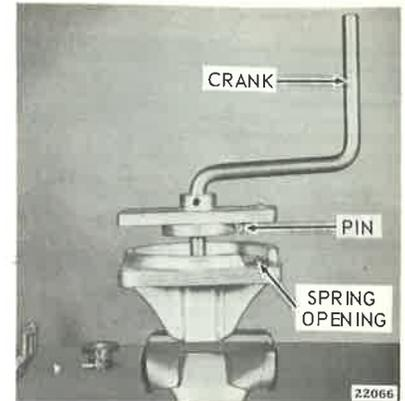

Figure 8-5. Rewind Tool Base and Crank
- a. Clamp base of Starter Spring Winder (Special Tool #383966) in vise with opening at base toward you. See Figure 8-5.